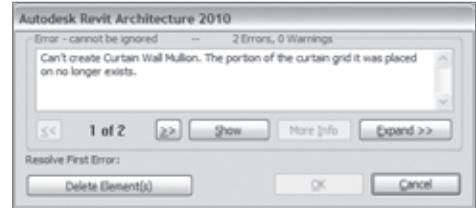

Figure 4.85
- You'll get a message about elements becoming invalid. Click the Delete Element(s) button (see Figure 4.85). This isn't a problem; Revit is just letting you know that it needs to delete the elements in order to re-create them. The mullions will be regenerated once the curtain wall is attached to the roof.